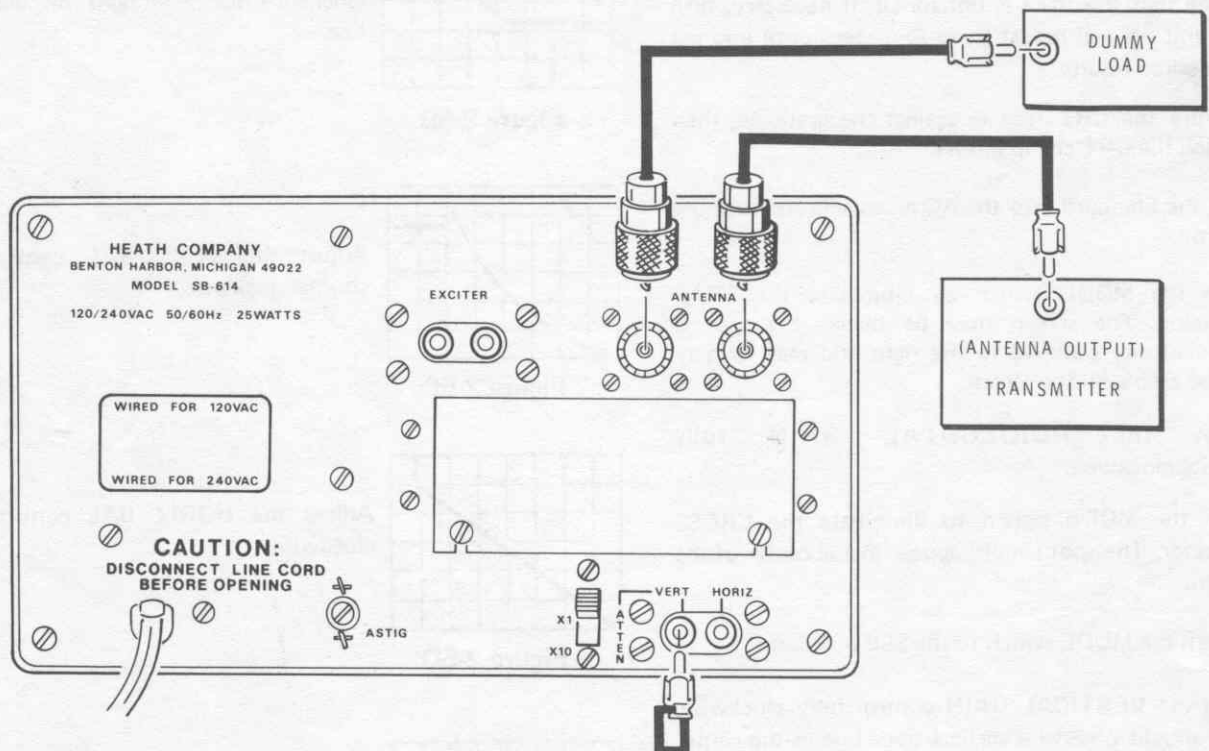

Figure 3-1
- () Refer to Figure 3-1 and connect the transmitter output to the Station Monitor as shown. Connect a 50 Ω dummy load to the remaining open ANTENNA jack on the rear of the Monitor.